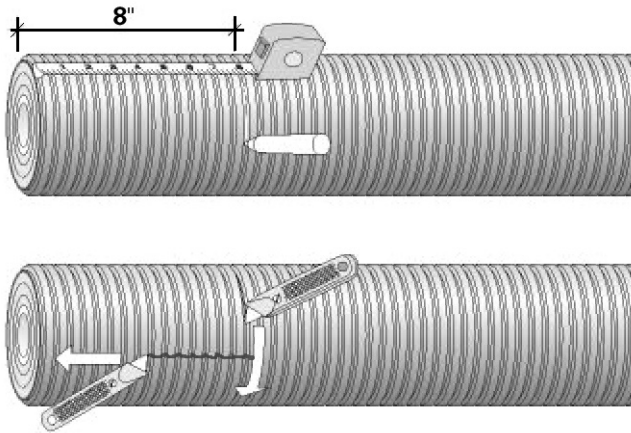

Figure 4-30: Measure and cut outer jacket
2. Measure 8" from end of the pipe, and using a sharp razor knife, slice through the jacket around the circumference and remove. It may be necessary to continue by cutting the jacket from the circumference to the rough end of the pipe as shown in **Figure 4-30**.